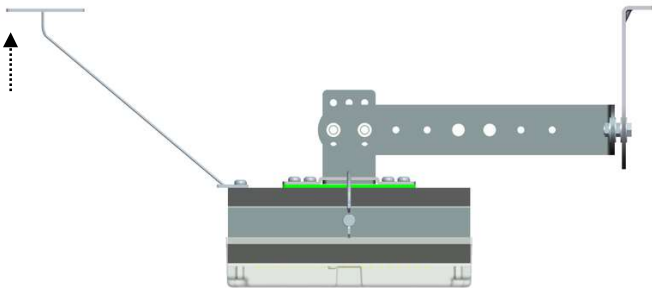

FIG.6
3. Secure the metal cord (already with one end attached to the LED head) to the fixture. See FIG.6.
- 4. Secure the metal cord(s) (already with one end attached the LED head, see FIG. 6) to the fixture, for secure purpose.